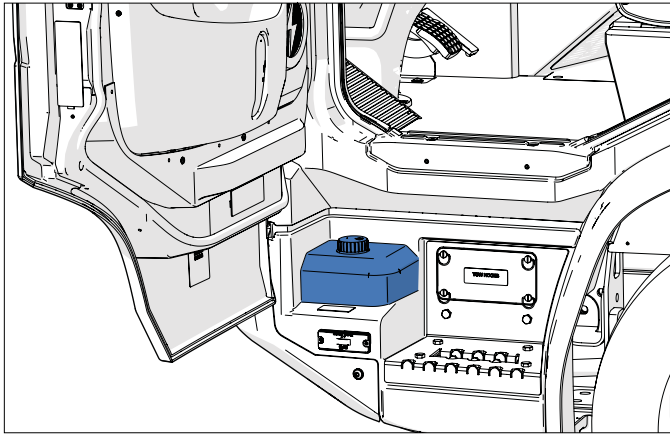

Figure 22 - Windshield washer fluid reservoir
- The windshield washer fluid reservoir is located behind the bottom of the driver's side door next to the cab step (Figure 22).